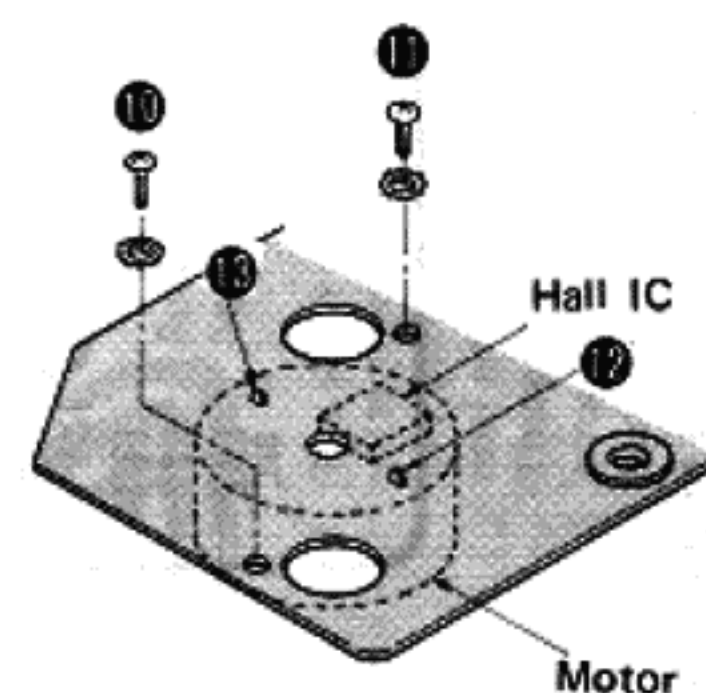

Fig. 3
3. Disengage the motor bracket fitting screws ⑩, ⑪ and disconnect the soldered motor terminals ⑫, ⑬ then the motor can be detached. (See Fig.3)